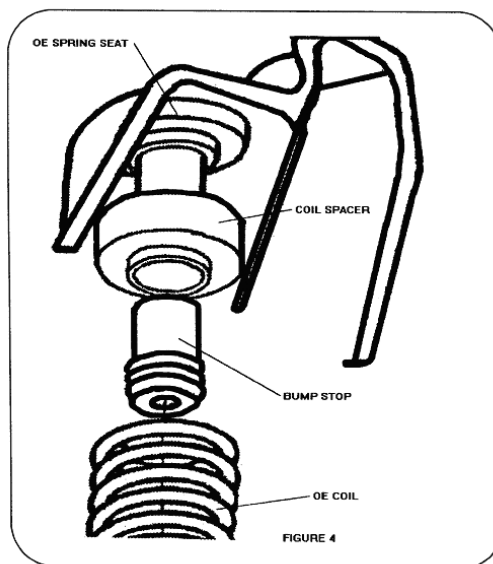

Fig 4
19. Install the BDS coil spacer over the bump stop pocket and up into the mount with the lip of the spacer down as shown in figure 4.